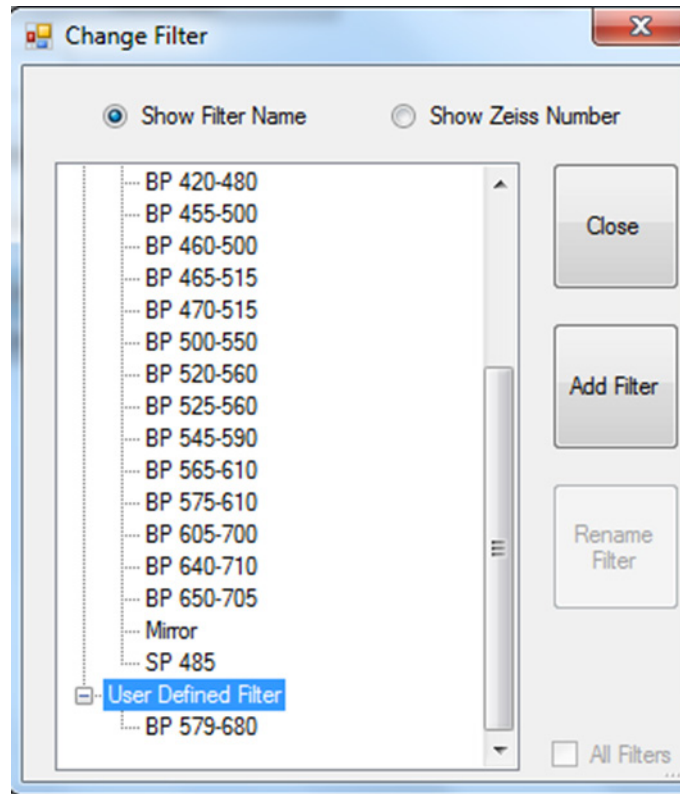

Fig. 14 List of Favourite, Potential and User Defined Filters
- Clicking this button opens the **Change Filter** window with a list of favourite, potential and user defined filters (Fig. 14).